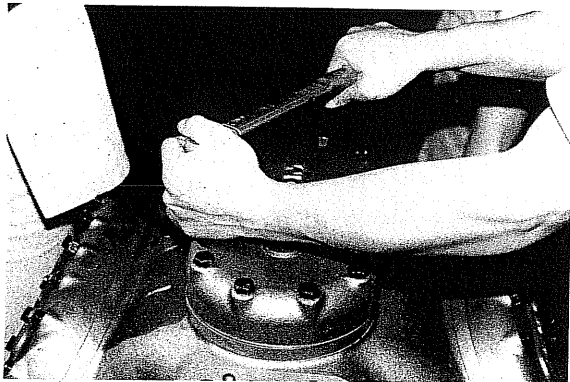

Fig. 28 Removing Head Cover
- a) Remove the top head covers before removing the bottom ones in order to prevent dislodged foreign matter and dirt from contaminating the lower cylinder valves (Fig. 28~29).
- b) When removing a head cover, remove all bolts except for one at the top. Finally, holding the head cover securely by hand, unfasten the final bolt and lift the cover free (Fig. 28~30).